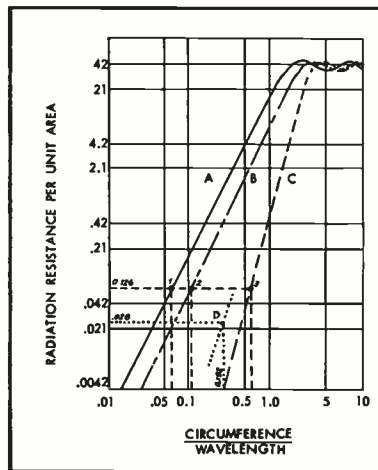

Fig. 4. Radiation resistance for pistons in (A) infinite baffle, (B) small box, and (C) free space.
Now this radiation resistance is not a simply written quantity. It is a function of the size of the piston, the frequency of operation, and the condition of baffling. This relationship is shown in Fig. 4 for three general conditions: (A) where a piston is vibrating in the plane of an infinite baffle, (B) where it is vibrating in an infinitely long tube with the piston terminating one end of the tube, and (C) where the piston is completely unbaffled. Curve A is frequently seen in the literature, and equally as often applied in practice. To clarify later discussion however, a few words about curve (B) in this figure would be germane. While the values represent the resistive loading upon a vibrating piston at the end of an infinitely long tube, it may be applied to any type of structure where the rear radiation of the piston is completely absorbed but where the front face of the piston is not integral with any other baffling surface sharing the same plane. Beranek¹ says
Curve (C) of Fig. 4 is seldom confronted in practice, for one hardly ever thinks of operating a speaker in an un-baffled condition. But this particular parameter is precisely the set of conditions with which we will be dealing in the direct explanation of the system.
But to continue our thesis concerning the un-baffled radiator, we have seen that a small sealed box is by no means an infinite baffle in an acoustic-radiation sense. The radiation from the piston falls back and folds around the box, which completely alters the character of the load upon the diaphragm. Actually, for a given frequency below the transition point where the piston circumference to wavelength ratio is less than 2 (see Fig. 4), the radiation impedance of the boxed piston is essentially half of that when placed in a true infinite baffle, with essentially half of the radiated power of the latter. In the case of the small closed box, the piston radiates into a "full spherical" space of 4π steradians³ by diffracting around the box. In the case of the true infinite baffle, the baffle divides space into two parts with the piston radiating into one of these "half spaces" while at the same time the baffle creates an image of the sound source placed within it to be re-radiated along with the original sound power thus doubling the total sound power, as against that obtained from the small box type of radiator.
In full recognition of these baffle complications and configurations, and furthermore whetted by the desire to sharpen the low-frequency radiation directivity, we determined to free ourselves of the baffle problem entirely, and the only way to accomplish this was to provide a completely free-space piston vibrating without any baffle restriction whatever. Now off hand, there should be a virile chorus of objections that such a system just cannot work, that doublet radiation would immediately cancel out all radiated power for those frequencies where the wavelength was large compared to the piston size. Certainly, there are valid objections, but only insofar as they may be numerically verified. The fact of the matter is that from the set of curves of Fig. 4, it is possible to put a straight edge along any one horizontal level indicating any desired unit radiation resistance value and pick off as at points (1), (2), and (3) the circumference-to-wavelength ratio for a piston in an infinite baffle, a second value for one in a small box, and a third value for one completely un-baffled. From these values we could then determine, for a fixed frequency, a rising progression of different piston sizes to produce a given sound pressure for the conditions of infinite baffling to no baffle at all.